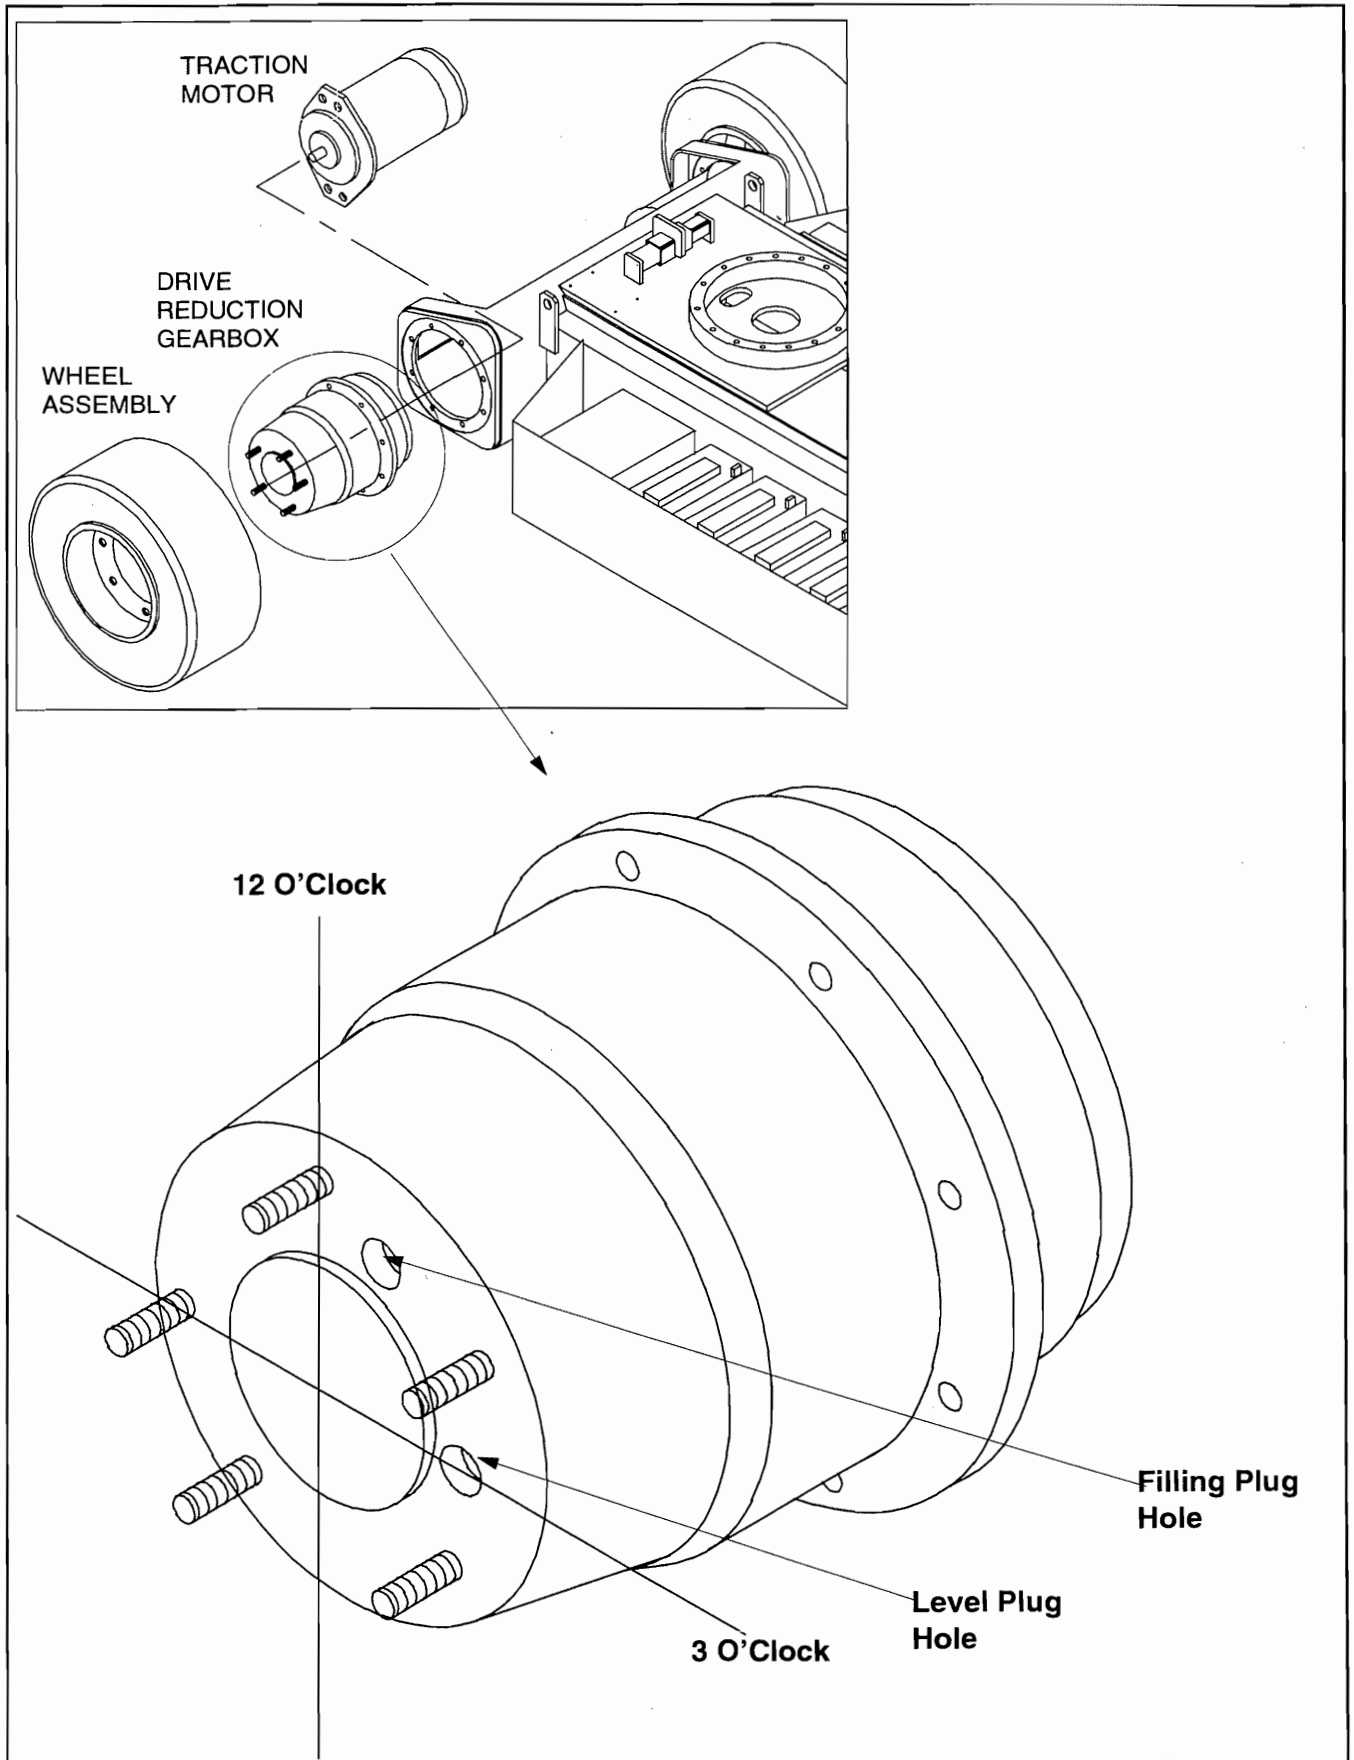

Figure 4-20: Drive reduction Gearbox
- (3) Unscrew the four bolts that hold the traction motor to the gearbox and pull the motor away from the rear face of the gearbox.
- (4) Disconnect the brake hose from the brake port on the gearbox and plug to avoid excessive oil spillage.
- (5) Loosen the five wheel nuts securing the wheel assembly to the gearbox studs.
- (6) Jack up the rear of the SP37 and chock the front wheels to prevent the machine from moving during the service.
- (7) Remove the wheel assembly by unscrewing the five wheel nuts
- (8) Unscrew the eight securing bolts that hold the gearbox to the chassis, and remove the gearbox noting its orientation on the chassis before removal.
- (9) Remove the oil filler and drain plugs from the front (stud) face of the gearbox.
- (10) Stand the gearbox vertically (studs facing down) in a suitable oil disposal container and allow oil to fully drain.
- (11) The gear box needs to be half filled which requires approximately 0.9 L itres of oil. To check this level, rotate the gearbox into the horizontal position with one of the filler/drain plug holes in the 3 O' Clock position and the other plug hole above it (See fig.4.20). When the gearbox is half full oil will just start to trickle out the plug hole in the 3 O'Clock position.
- (12) Insert and tighten both plugs, and clean the surfaces of the gearbox.
- (13) Re-attach the gearbox to the chassis in its original position with the eight securing bolts.